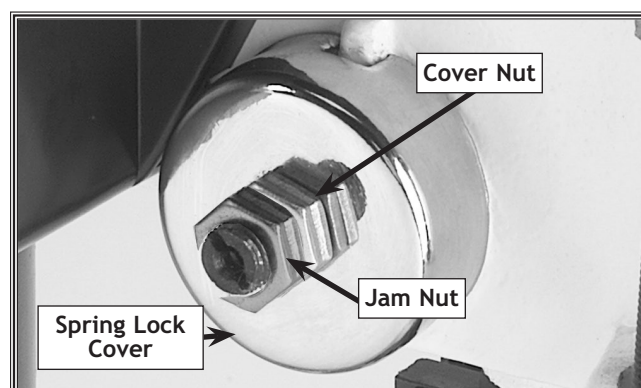

Figure 24. Typical feed shaft return spring assy.
2. Wipe off any oil on the spring lock cover so it will not slip in your fingers when you hold the cover from spinning (see Figure 24).